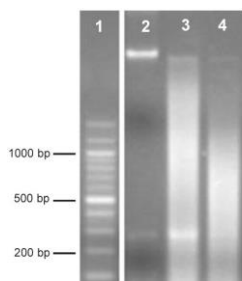

FIGURE 3
15. Shear the three aliquots using three different conditions (Figure 3).
23. Observe which shearing conditions result in a smear of DNA between 200 and 1,000 bp (see Figure 3).